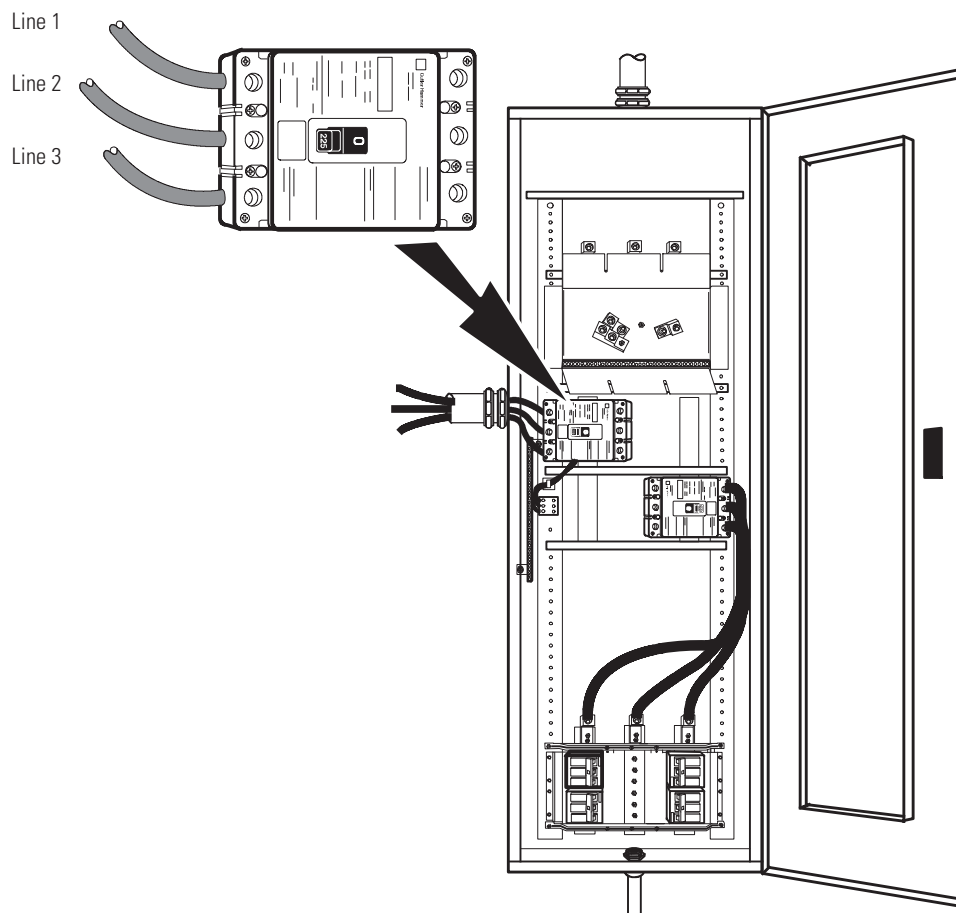

Figure 36. Version 2 Bypass Cabinet Bypass AC Input Wiring
19. Wire the AC input to the bypass breaker (see Figure 36).